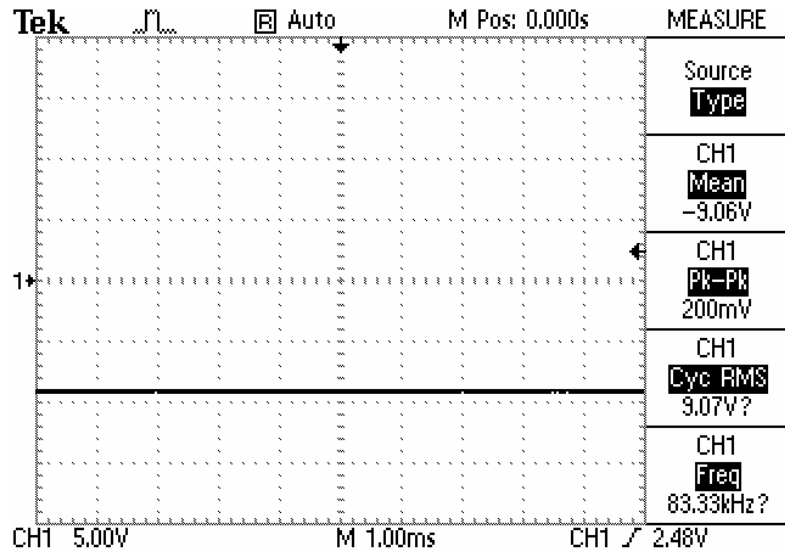

Figure 7: Oscilloscope Display of -9V Power Supply
28. [] The oscilloscope waveform should be a straight horizontal line at about -9V. See Figure 7.